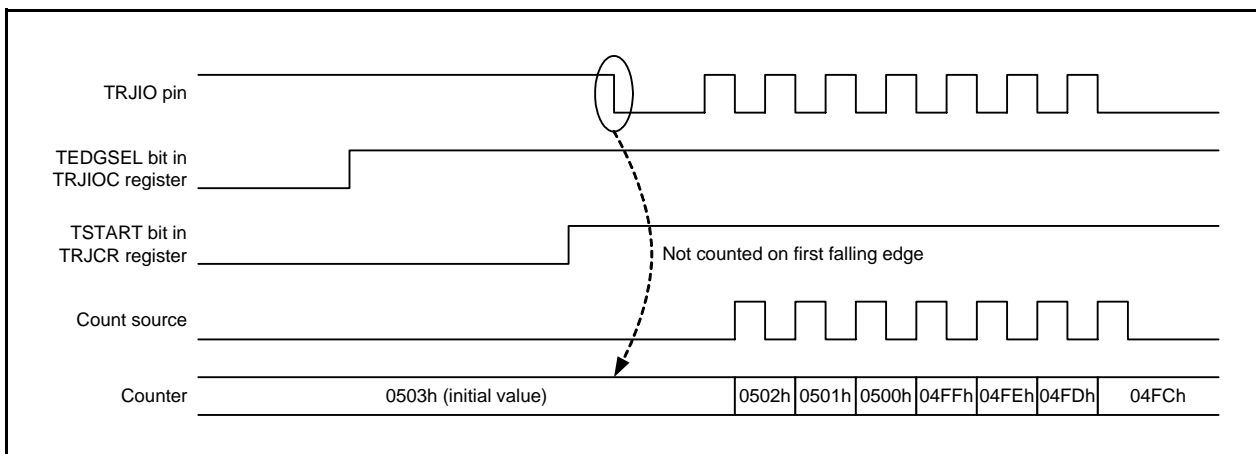

Figure 21.6 External Pulse Signal Timing in Event Counter Mode (1)
- (9) When the TEDGSEL bit in the TRJIOC register is set to 1 (count on falling edge) and the external signal (TRJIO) is counted in event counter mode, the signal may not be counted correctly depending on the state of the TSTART bit in the TRJCR register (see Figure 21.6).